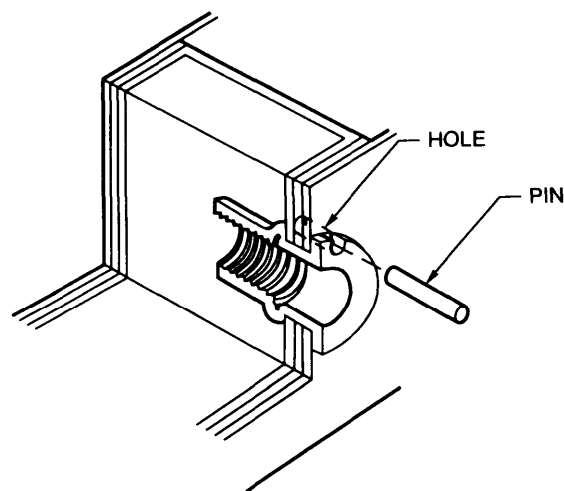

Figure 3-9. Repair of Turning Rivnut
- (3) *Repair.* (Figure 3-9) When excessive torque is applied on screws attached on rivnuts, it may cause a rivnut to turn (spin). Table 3-4 provide the maximum torque requirement for hardware to prevent rivnut turning. To correct a turning rivnut, proceed as follows:
- (a) Drill a .062 (+.003, -.001) diameter hole by 1.00 inch long on the stem of the turning rivnut as shown in Figure 3-9.